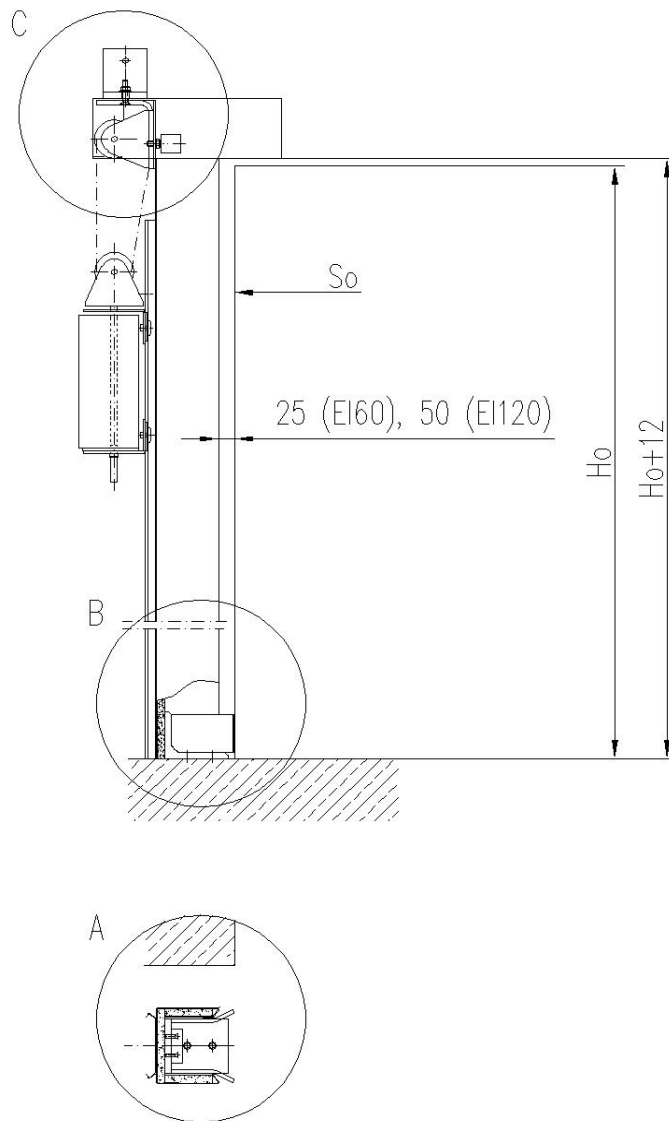

Figure 4: Front module - position in relation to the edge of the hole
- Set front module in relation to the edge of the hole (Fig. 4);